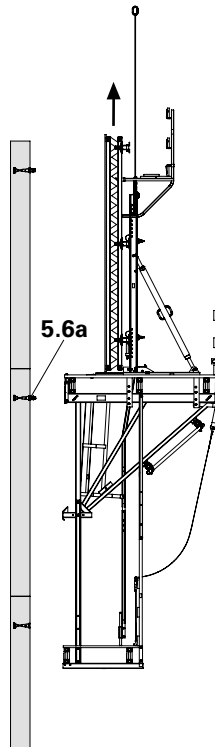

Fig. B4.03
4. Lower climbing unit onto scaffold mounting ring (5.6b) evenly and horizontally till the lower point of pressure (1.7) of the bracket rests against the wall. Lifting gear remains tensioned. (Fig. B4.03 – B4.05 + B4.06)